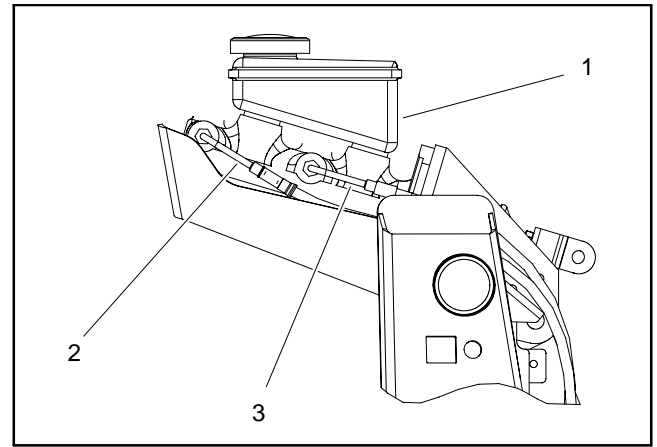

Figure 9
1. Position master cylinder to vehicle frame and secure with two (2) flange head screws and flange nuts.
2. Remove plugs from brake lines. Install brake lines to master cylinder. Make sure that brake lines are properly connected to master cylinder (Fig. 9).